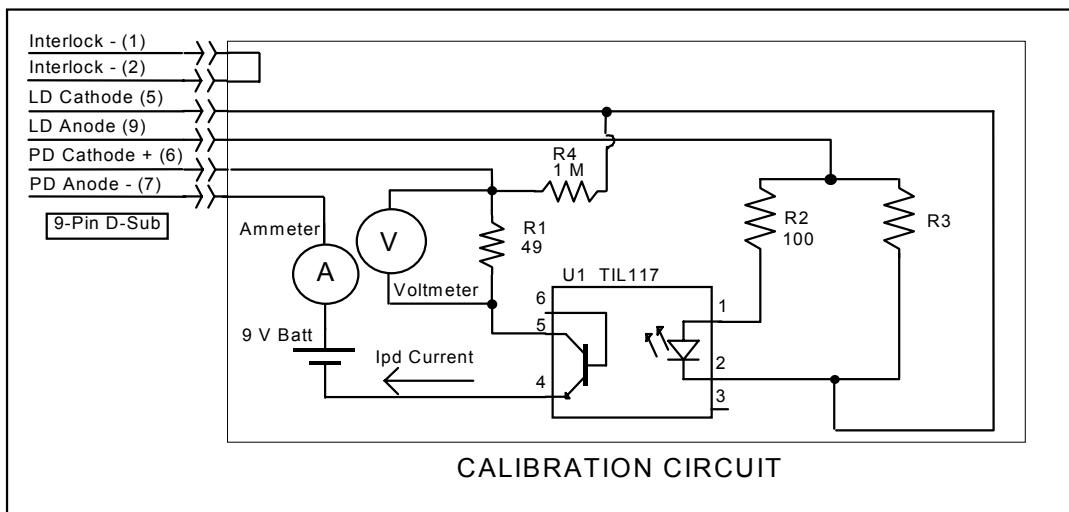

Figure 5.1 I_{PD} Calibration Circuit
- Select the CSM-39020 to be calibrated by pressing the appropriate (ADJUST) switch. With the LASER output off, connect a calibrated ammeter to the PD Anode output of the CSM-39020, and connect the circuit of Figure 5.1 to the LASER and PD outputs.
- a. With the LASER output off, connect a calibrated ammeter to the PD Anode output of the CSM-39020, and connect the circuit of Figure 5.1 to the LASER and PD outputs.
If a calibrated ammeter (with 0.1 μ A resolution) is not available, place a calibrated DMM (with 0.1 mV resolution) to measure the voltage across the resistor, R1, as shown in Figure 5.1. Calculate the current in the following steps by using Ohm's Law: